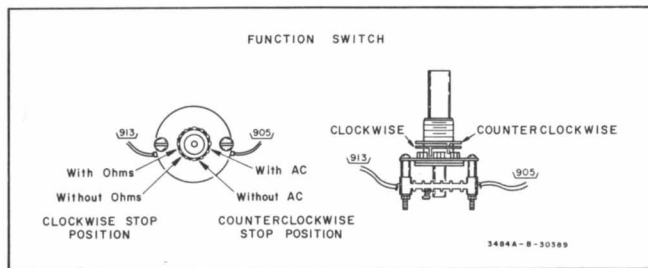

Figure 2-2. Function Switch Limit Stop.
- m. Rotate the counterclockwise limit stop two positions counterclockwise as indicated in Figure 2-2. Make certain that the clockwise limit stop is in the correct position.